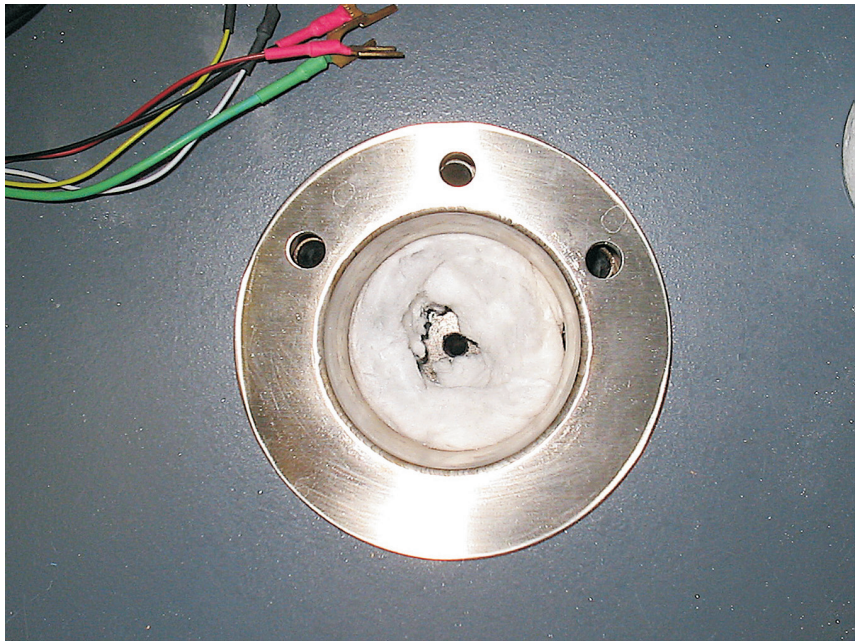

Figure 28 Basket, insulation, and furnace lid installed .
23. Install the furnace lid (Figure 28).